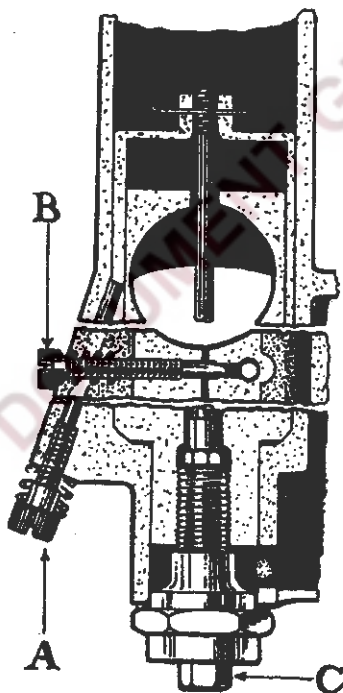

FIG. C.2.
Figure C.2 is three diagrammatic sections of the carburettor to show the throttle adjusting screw (A), and the pilot air adjusting screw (B).